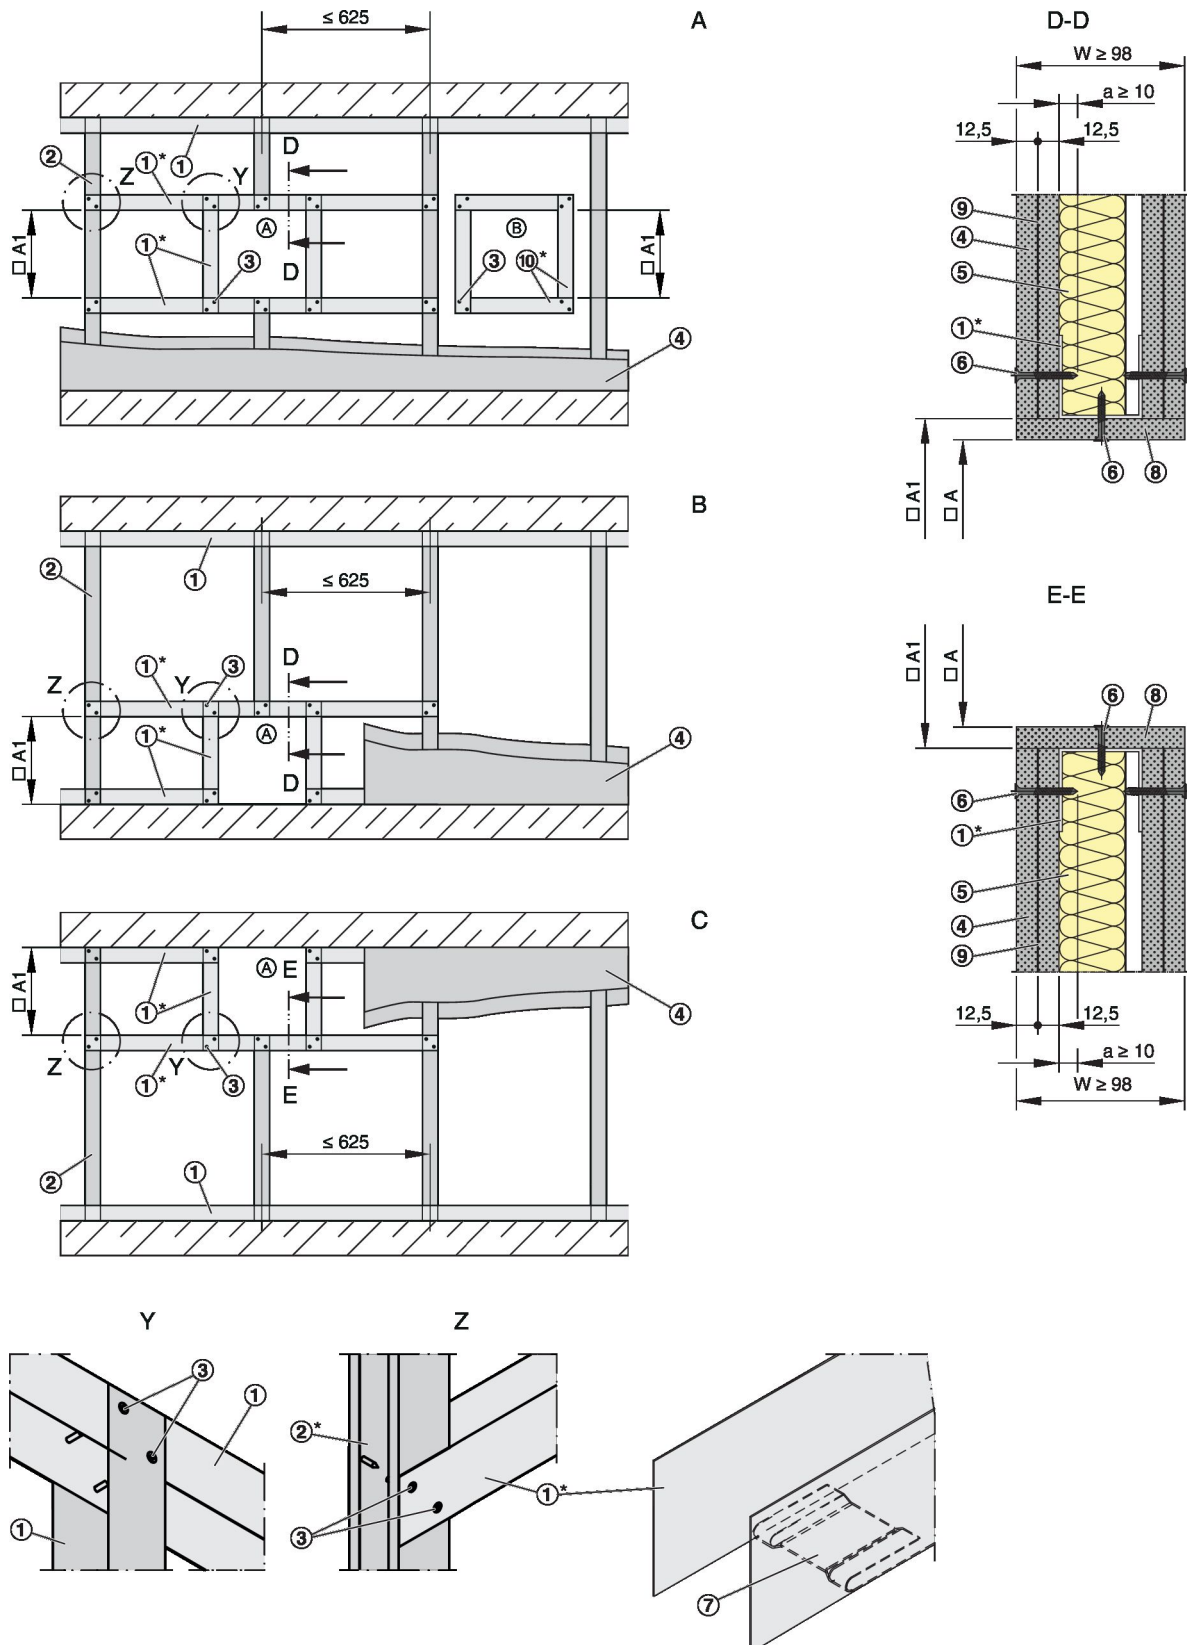

Fig. 27: Lightweight partition wall with metal support structure and cladding on both sides
- Erect the lightweight partition wall according to the manufacturer's instructions and create an installation opening, see Fig. 27